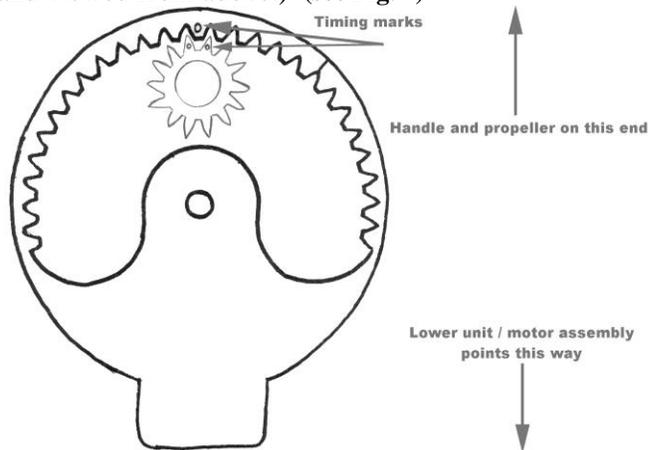

Fig. 7
**NOTE:** The timing mark used for bow mount 3X models is a raised bump on the gear tooth. (Located in the 12:00 o’clock position when the gear carrier is held with the detent spring towards the viewer and viewed from above.) (see Fig. 7)